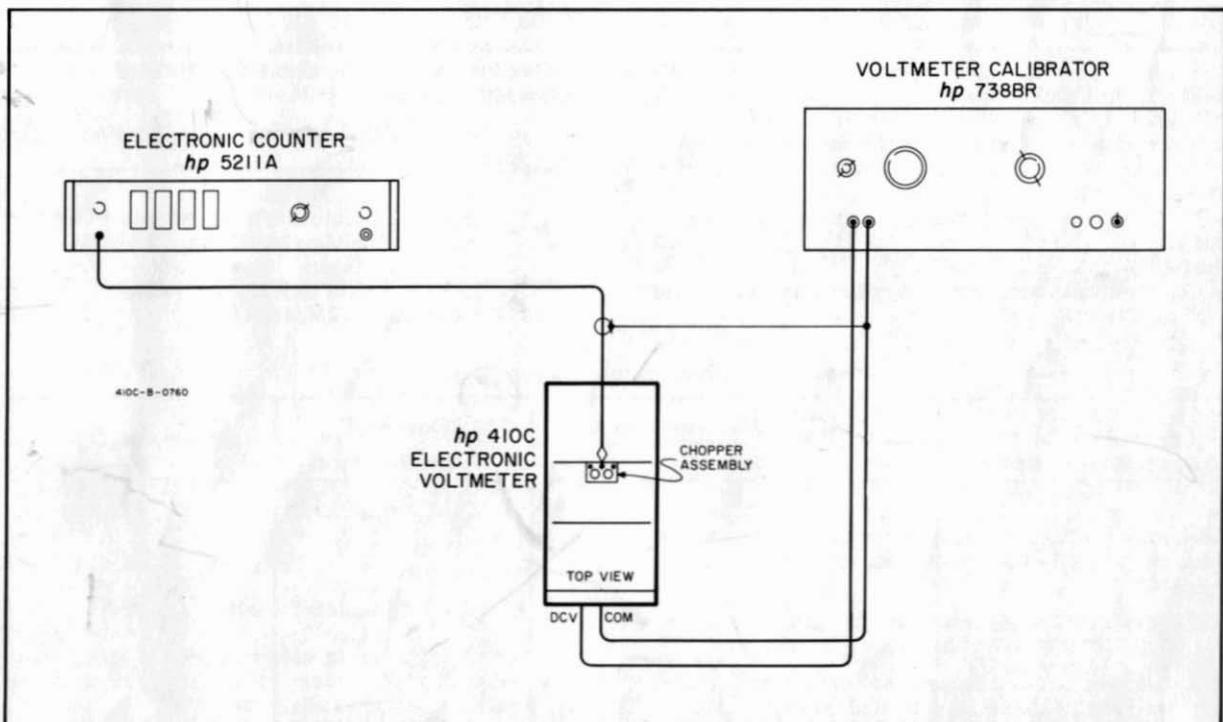

Figure 5-6. Chopper Frequency Adjust Setup
- Connect Model 410C, electronic counter, and voltmeter calibrator as shown in Figure 5-6.